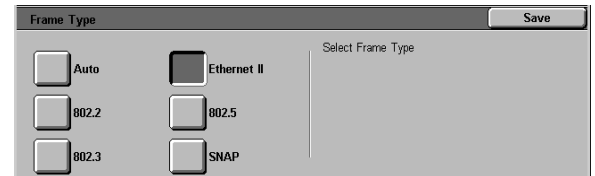

Figure 43: Frame Type screen
- On the Frame Type screen (Figure 43), touch the appropriate Frame Type.